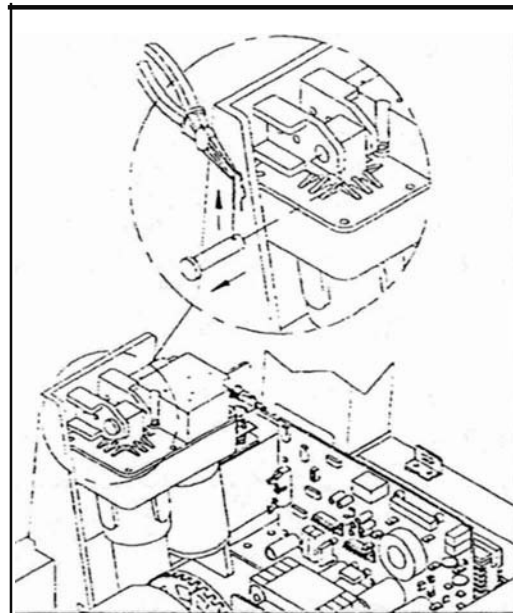

Fig.5
5. Use a pointed pliers to pullout the clip and remove the pin securing the top base of elevation unit. (See Fig.5)